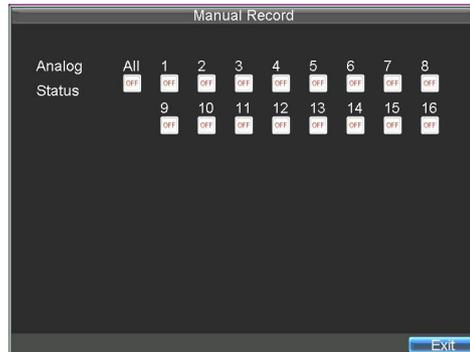

Figure 5. Manual Record Menu
1. Press the **REC** button on the front panel to access the **Manual Record** dialogue box, shown in Figure 5.